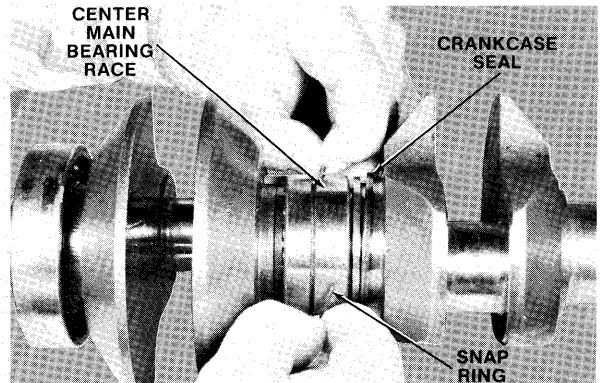
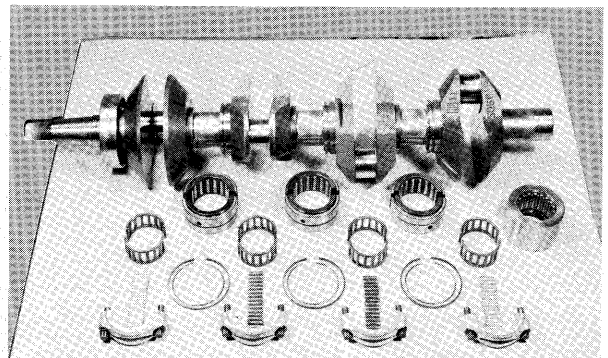

Figure 7—Removing Main Bearings
Figure 8—Grouping Parts
- K. Remove snap ring from groove in main bearing as shown in figure 7. Remove center main bearing race and caged rollers.
- L. Remove crankcase seal from groove in crankshaft next to main bearing. See figure 7. Be sure to group all components of each main bearing group together — do not mix. See figure 8.